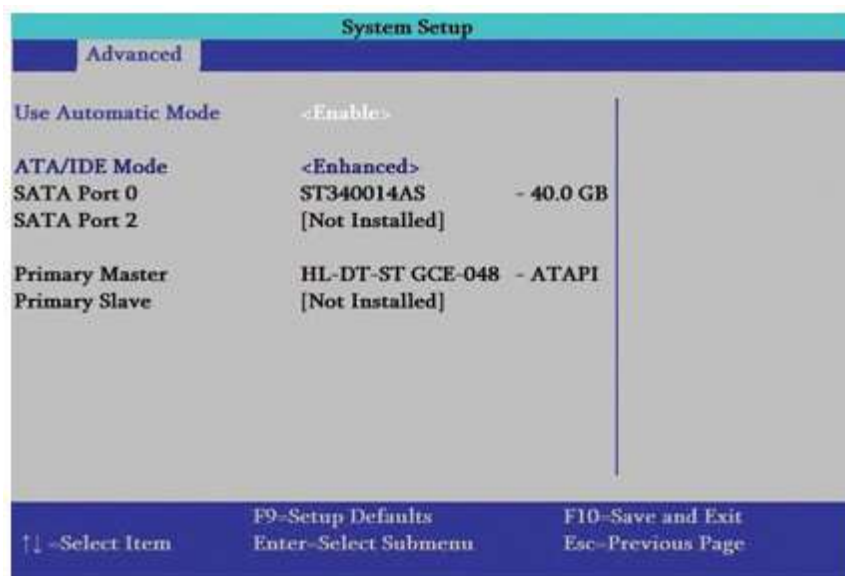

Figure 17
7. Look at your screen, the Harddisk is detected automatically by the BIOS, ensure that the setup is set correctly (See Figure 17).